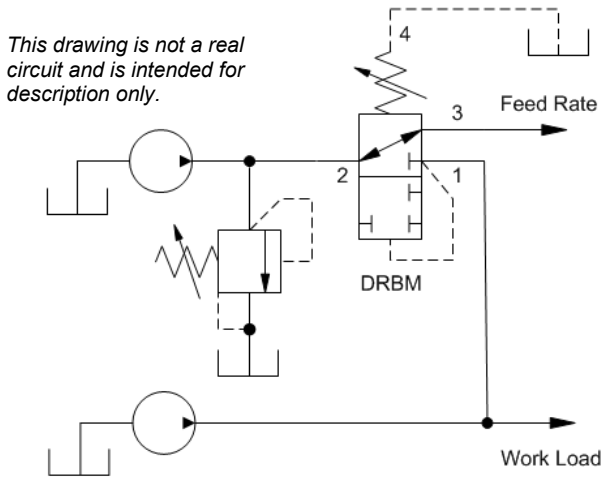

Figure 3.
- Normally open 2-way, four port cartridges are typically used for blocking functions at a predetermined remote pressure signal, with port 3 seeing system pressure. (Be aware that any pressure at drain port 4 will add to the pressure setting.) (See Figure 3.)
This variable feed rate circuit is similar to that shown in Figure 3, except when the work load pressure reaches the setting of the DRBB (or DP*B), the valve bleeds off flow from the feed pump, slowing or stopping the feed rate.